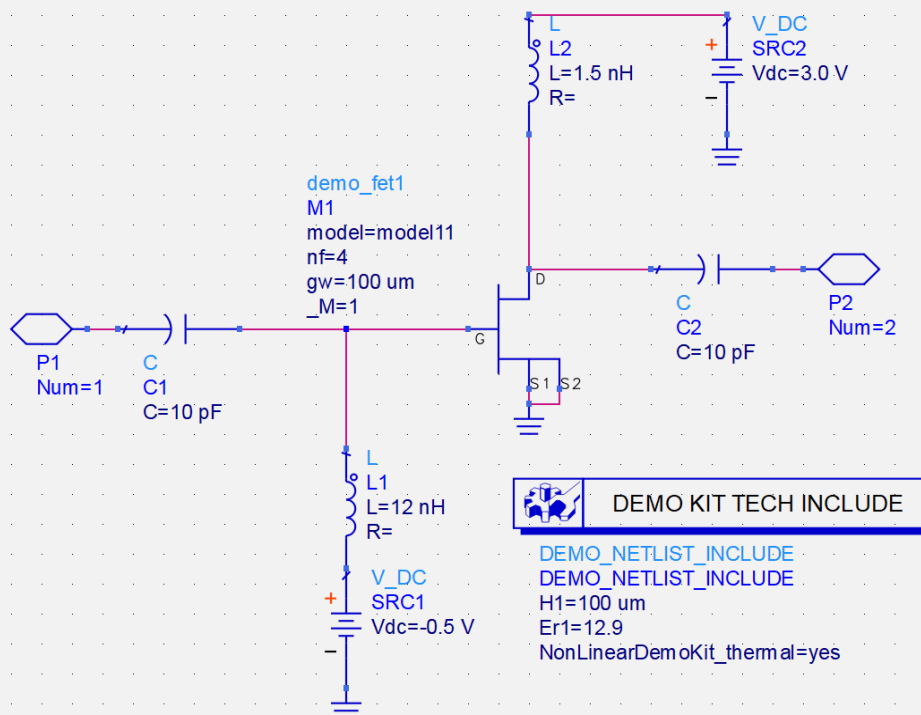

Figure 5. FET amplifier schematic
1. Build the amplifier shown in Figure 5. The basic steps are shown below:
- c. From the Lumped-Components palette, insert **inductors** (L) and **capacitors** (C). From the Sources-Freq Domain palette, insert **V_DC** sources.